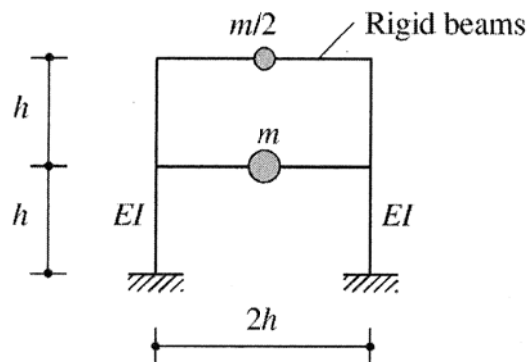

Figure 3
- (1) Explain the meaning of phase angle. (10%)
- (2) How to design an instrument to measure the ground acceleration ? (10%)
4. For the two-story shear building of Fig. 3 excited by horizontal ground motion $\ddot{u}_g(t)$, please determine: